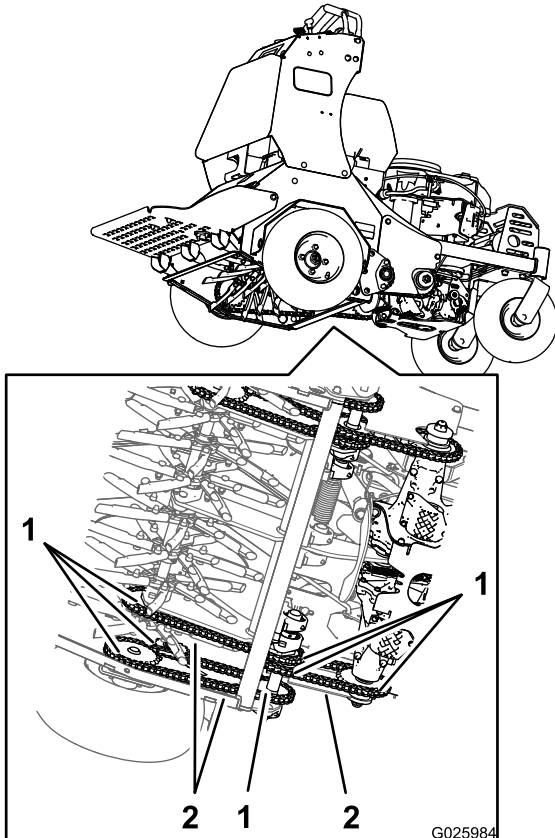

Figure 69
2. Inspect sprockets for wear and replace as required (Figure 69).